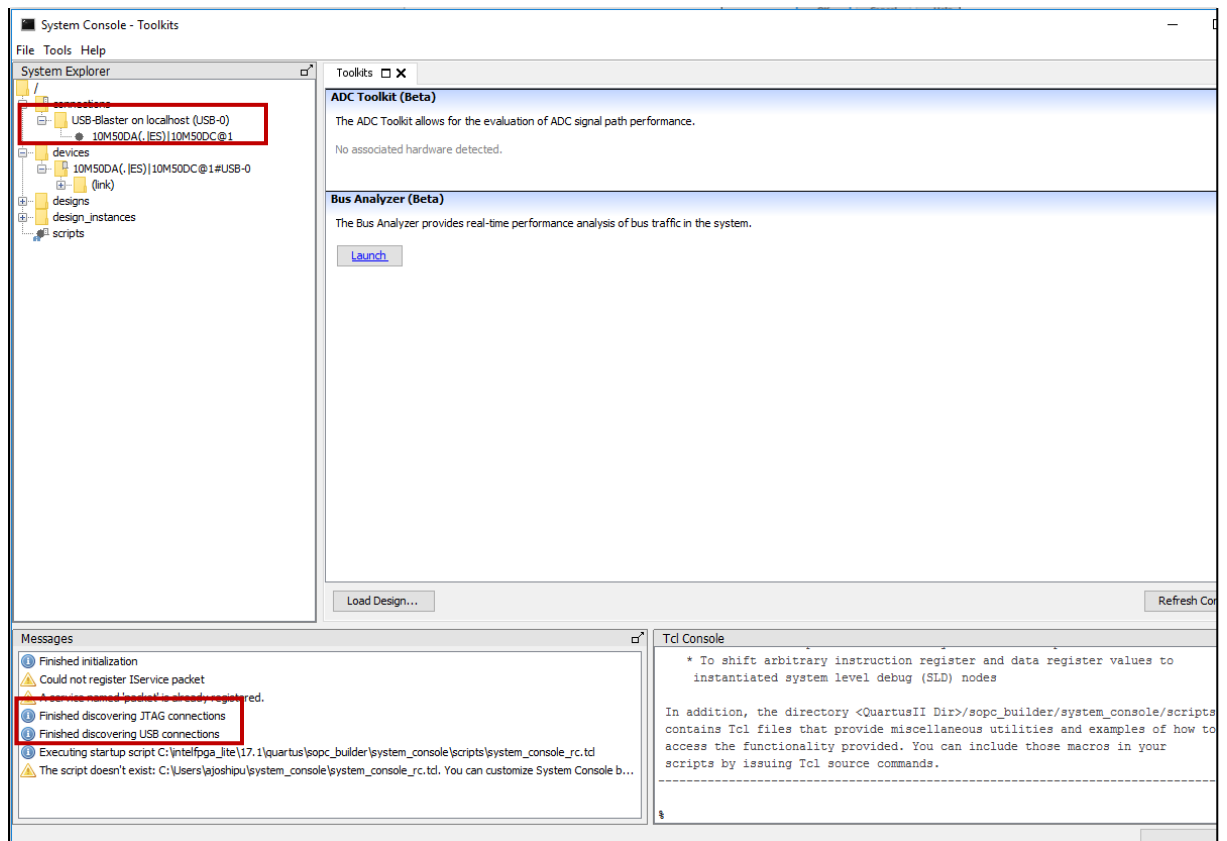

FIGURE 55 VERIFYING SYSTEM CONNECTIONS
4. Verify that system console can see the connections in the JTAG chain in the system console System Explorer window as shown in Figure 55 below.